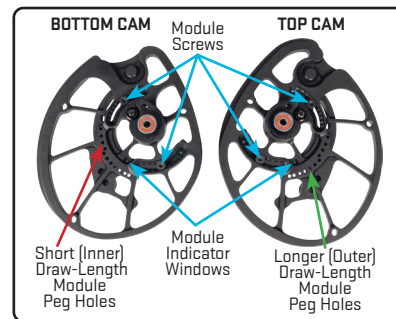

Fig. P-1
**HBX PRO Cam Series:** The top and bottom cams have modules which must be adjusted to the same position when adjusting the draw length. To adjust draw length on both cams, loosen the module screws 2.5 turns using the appropriate Torx wrench (T15 or T10 for most modules). See **Fig. P-1**. Pull the modules away from the cam surface to disengage the peg from the hole. With the locating pegs disengaged, the modules are free to slide to a different draw
length position. Rotate both top and bottom modules to the desired position, verify that desired module positions match by using the module indicator windows [see **Fig. P-1**], and then push them back to the cam, making certain that the locating peg is seated in the corresponding hole. Tighten the module screws to secure the modules in place. (Do not over tighten. Factory Setting = 15 in. lbs.) The HBX PRO Cam Series comes with two module options to cover the full draw length range. The #3 module is for the longer draw length range of the cam and utilizes the outer module peg holes. The #2 module is for the shorter draw length range of the cam and utilizes the inner module peg holes [see **Fig. P-1**].